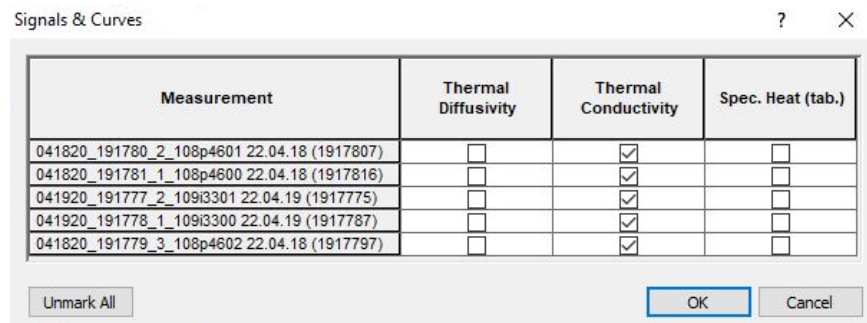

Figure 42. Calculate thermal conductivity for selected measurements.
- Uncheck the thermal diffusivity box, check the thermal conductivity box, and select OK (as shown in Figure 42).